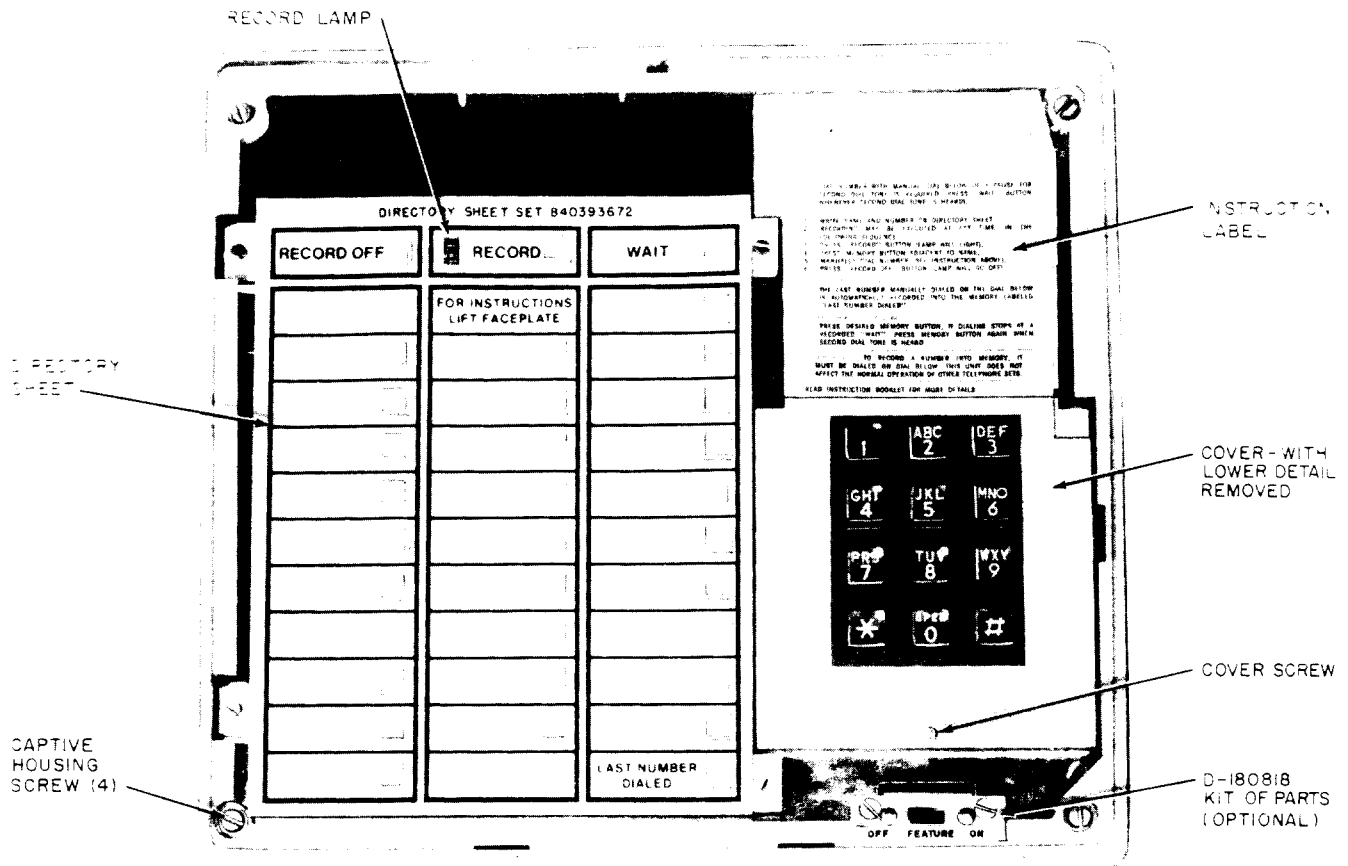

Fig. 2—2870B1M Dial, Faceplate Removed
2.09 Operating features (Fig. 2) are as follows.
3.05 Directory sheets (Fig. 2) are held in place by the faceplate. Additional sheets are available in directory sheet set, 840393672.